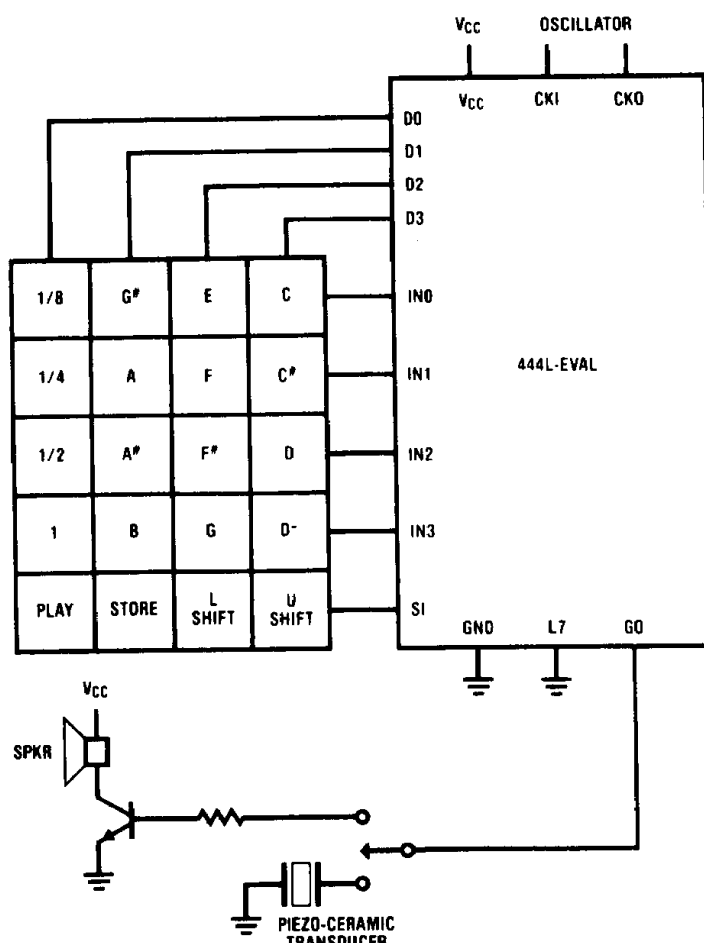

FIGURE 9. Counter/Timer
- By making only the oscillator, power supply and "L7" connections, (Figure 9) an approximate 1 Hz square wave will be produced at output "D1." This output may be observed with an oscilloscope, or connected to additional TTL or CMOS circuitry.
- All 4 digits of the counter may be displayed by connecting a standard display controller (COP472 for LCD, MM5450 for LED) as shown in Figure 9.
4. The simple counter described above becomes a timer when the 1 Hz output is connected to the "counter input." Up or down counting may be used with input frequencies up to 1 kHz. Improved timing accuracies may be obtained by substituting the 2.097 MHz crystal oscillator circuit of *Figure 4a* for the RC network shown in *Figure 9*, or by connecting a more stable external frequency to the "counter input" in place of the 1 Hz signal.